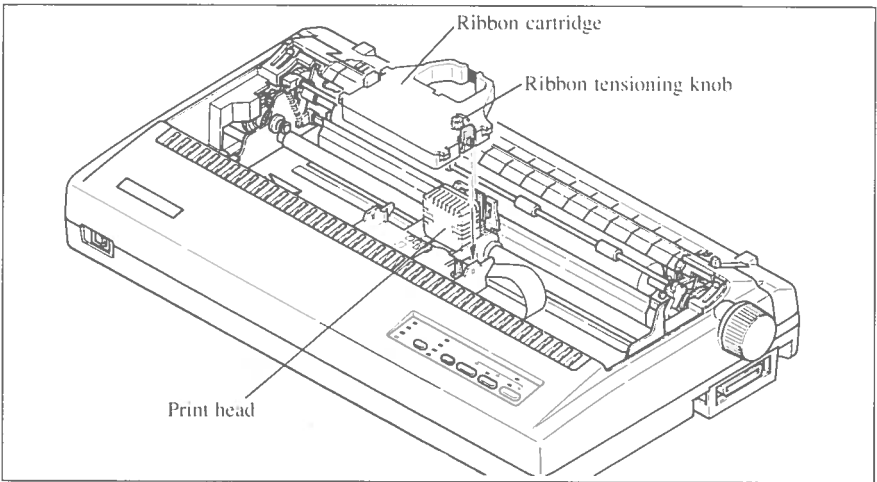

Figure 2-5. Install the ribbon cartridge.
4. Make sure that the ribbon is positioned between the print head and the print head shield as shown in Figure 2-5.